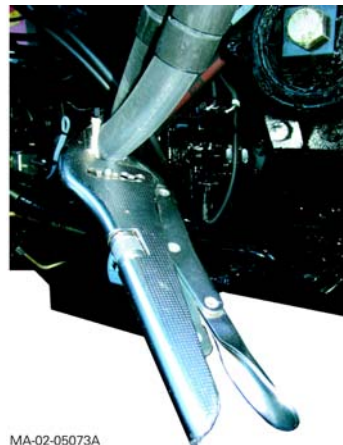

Fig. 18
- 40.** Toe-in each heating hose using a clamp fitted with plastic jaws (Fig. 18).